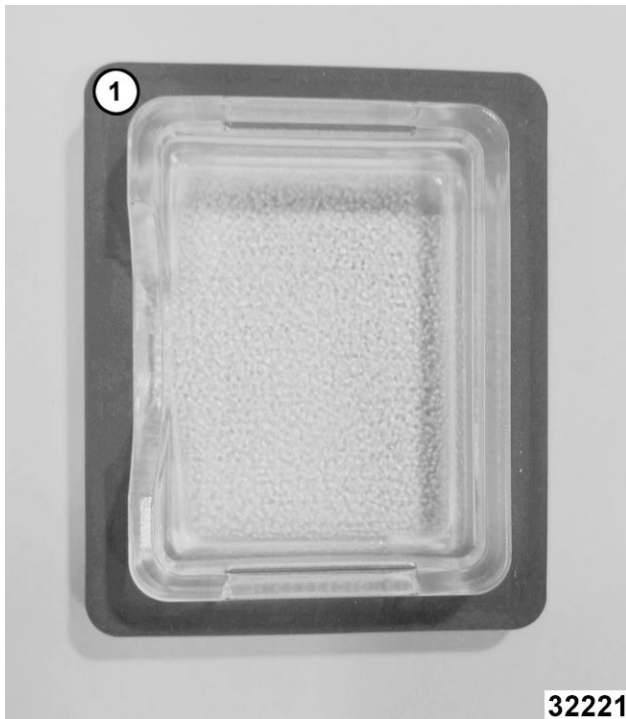

Fig. 51
**NOTE:** Verify gasket (1, Fig. 51) is flat on lamp cover and not damaged.